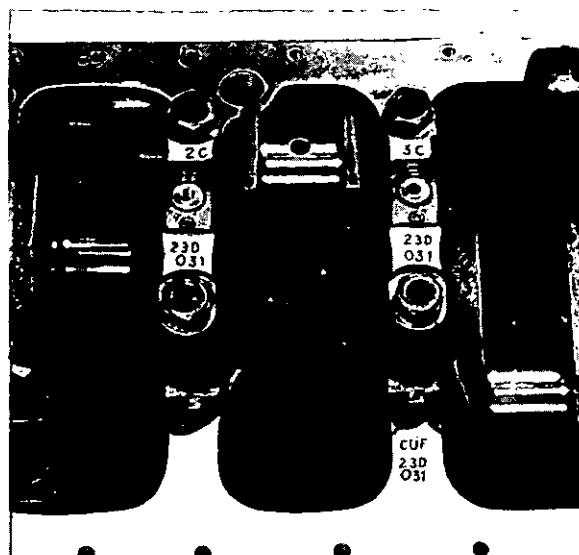

Fig. F.8
9. When replacing main bearing caps, ensure that they are fitted in their respective positions, also that they are fitted correct way round. The inner caps are numbered 2 and 3, from front of engine. Each cap is also marked with a serial number and when fitted, this number should read in line with serial number stamped on cylinder block bottom face (See Fig. F.8).